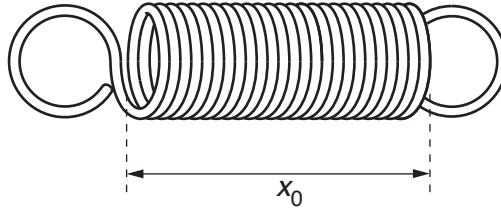

Fig. 1.1
- Measure and record the length x_0 of the unstretched coiled section of the spring, as shown in Fig. 1.1.